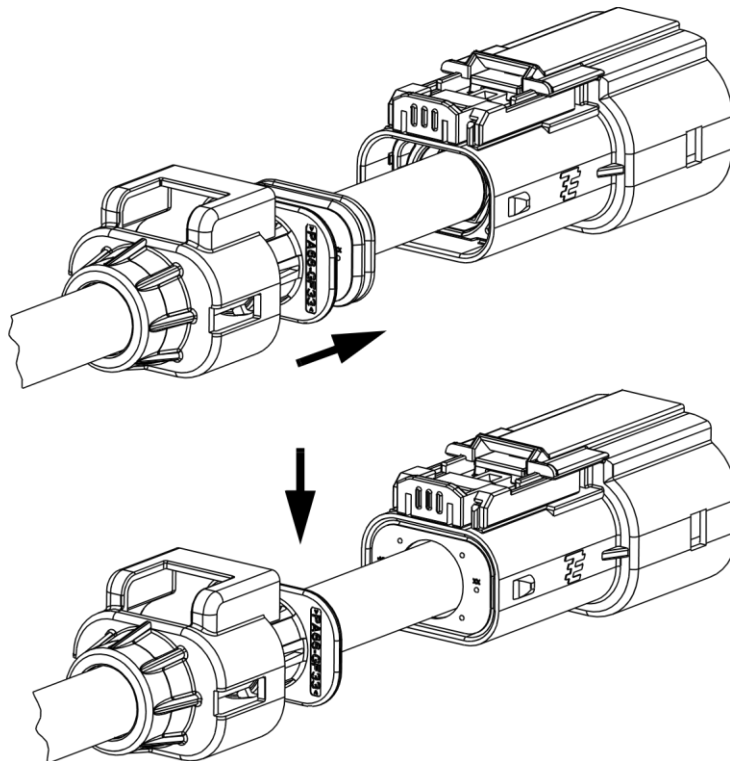

Figure 17
- 3.6.14.** Slide the cable seal forward on the cable and into the cable exit end of the connector assembly until it stops against the spacer as shown in Figure 17.